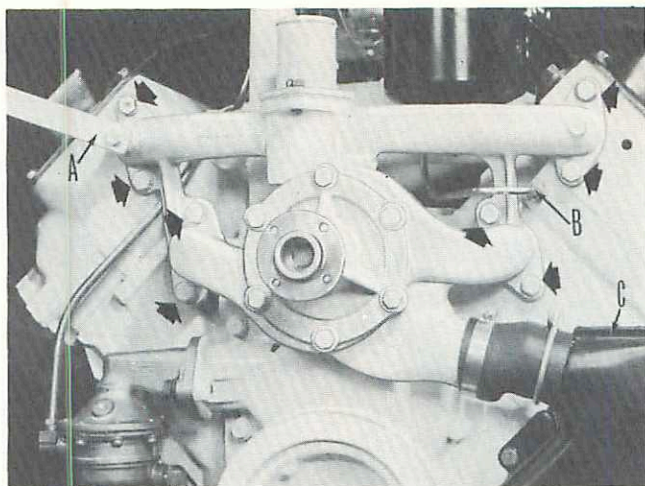

Figure 6—Water Pump Manifold Removal
pulley. It is not necessary to remove the water pump; the pump and manifold are removed as an assembly. Remove the upper radiator hose and heater hose. Remove the lower radiator hose or, on models equipped with the automatic transmission, loosen the hose clamp and slip the oil cooler (C, Fig. 6) and connecting hose off the manifold. Disconnect the oil filter pipe (B). Remove the generator adjusting strap screw (A) and swing the strap out of the way. Remove the screws indicated in Fig. 6 and remove the manifold.